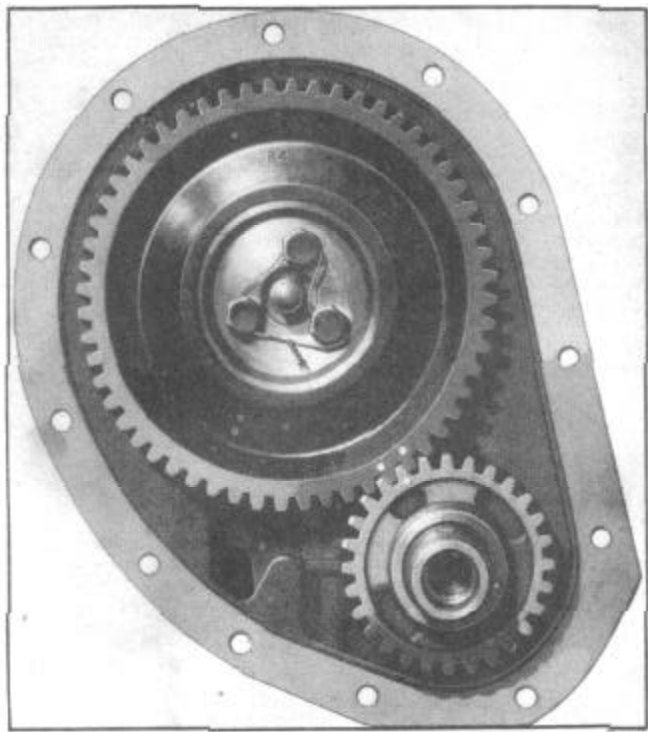

Figure 20--Timing Gear Markings
Correct timing is had by meshing the tooth of the crankshaft gear that has a punch mark on it between the two teeth of the camshaft gear that have punch marks on them. See Figure 20.
5. Turn engine over until timing gear marks on face of gear coincide (Figure 20).